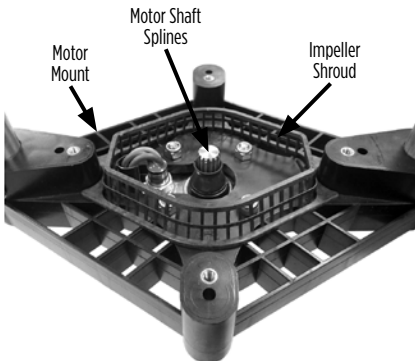
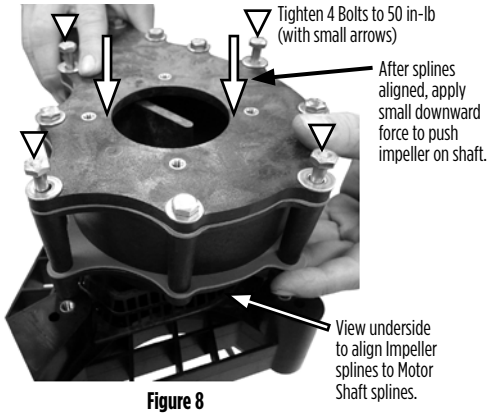

Figure 6
Figure 8
- Position impeller shroud on motor mount as shown (Figure 6). No fasteners are required.
- Align the splines of impeller to splines of motor shaft (Figures 6 and 7), and push the entire assembly down onto the motor shaft (Figure 8). After activation the impeller will seat itself to the correct location on the motor shaft.
- Rotate the pump head assembly slightly to align four $\frac{1}{4}$ -20 x $3\text{-}3/4$ " bolts to holes in motor mount. Tighten four bolts in an alternating fashion, torquing each to 50 in-lb (Figure 8).
- a. Loosen the four bolts securing the pump head to the motor mount (Figure 8).